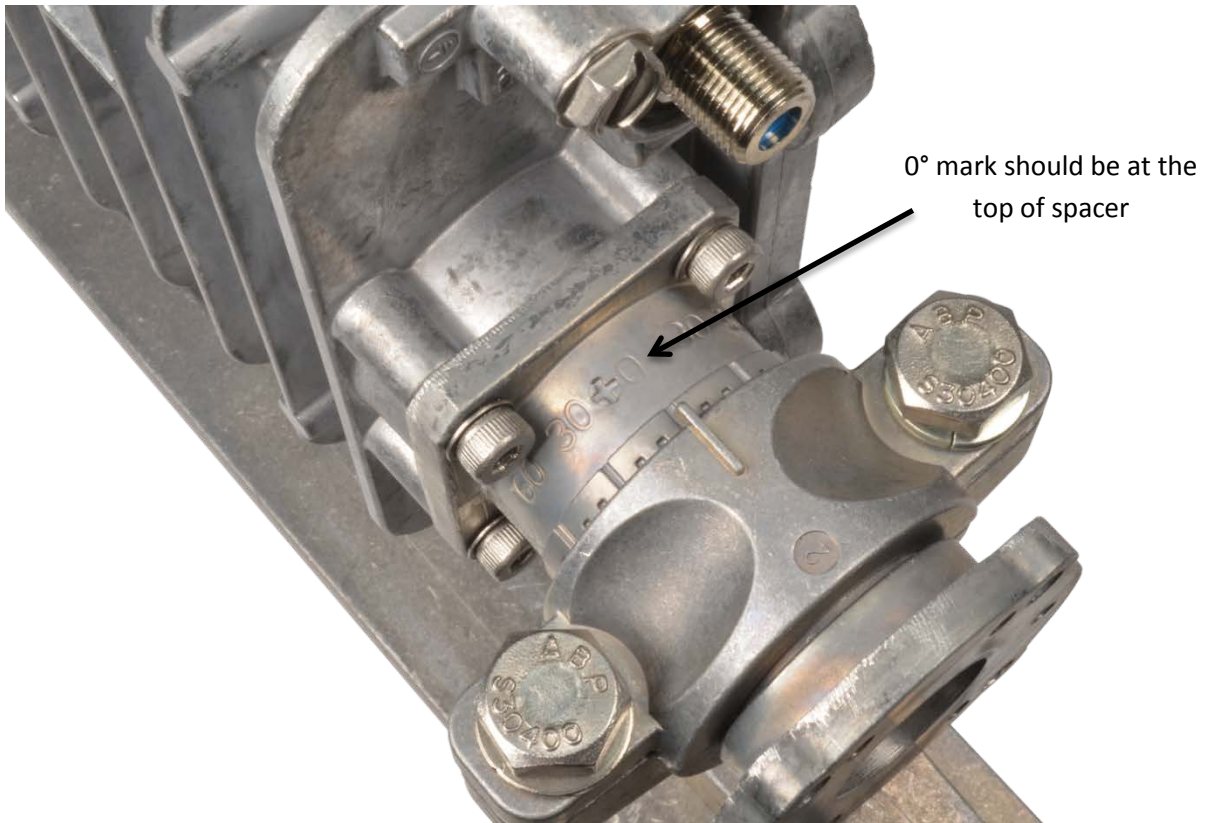

Figure 13: Polarization markings on the waveguide spacer
10. Once the feed horn has been assembled, the 0° degree mark on the waveguide spacer should be at the top of the bracket as shown in Figure 13.